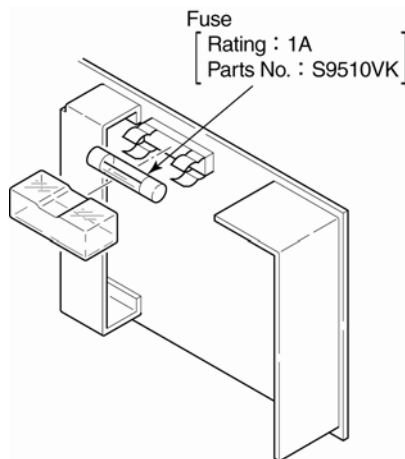

Figure 6-5 Replacement of Fuse
- (1) Remove the fuse holder cap, then pull the fuse out in the direction shown in Figure 6-5.
- (2) When installing a new fuse, use a fuse with the correct rating. Fasten the cap securely.